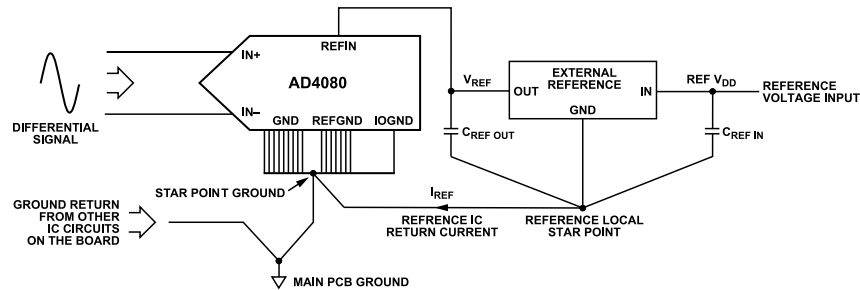

Figure 106. AD4080 External Reference Ground Connections
- ▶ Recommended connections of ground (GND), reference ground (REFGND), and digital ground (IOGND) connections are shown in Figure 106. It is recommended to not keep the current return path of the reference IC in the same current loop as the current return loop from the other circuitry on the PCB. Connect the reference local star point to the ADC star point ground on the top layer of the PCB as shown in Figure 106.